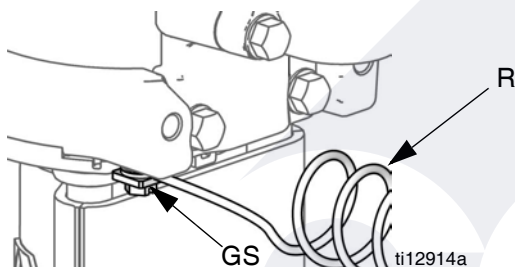

FIG. 2. Ground screw and wire
1. Pump: See FIG. 2. Verify that the ground screw (GS) is attached and tightened securely to the air motor. Connect the other end of the ground wire (R) to a true earth ground.